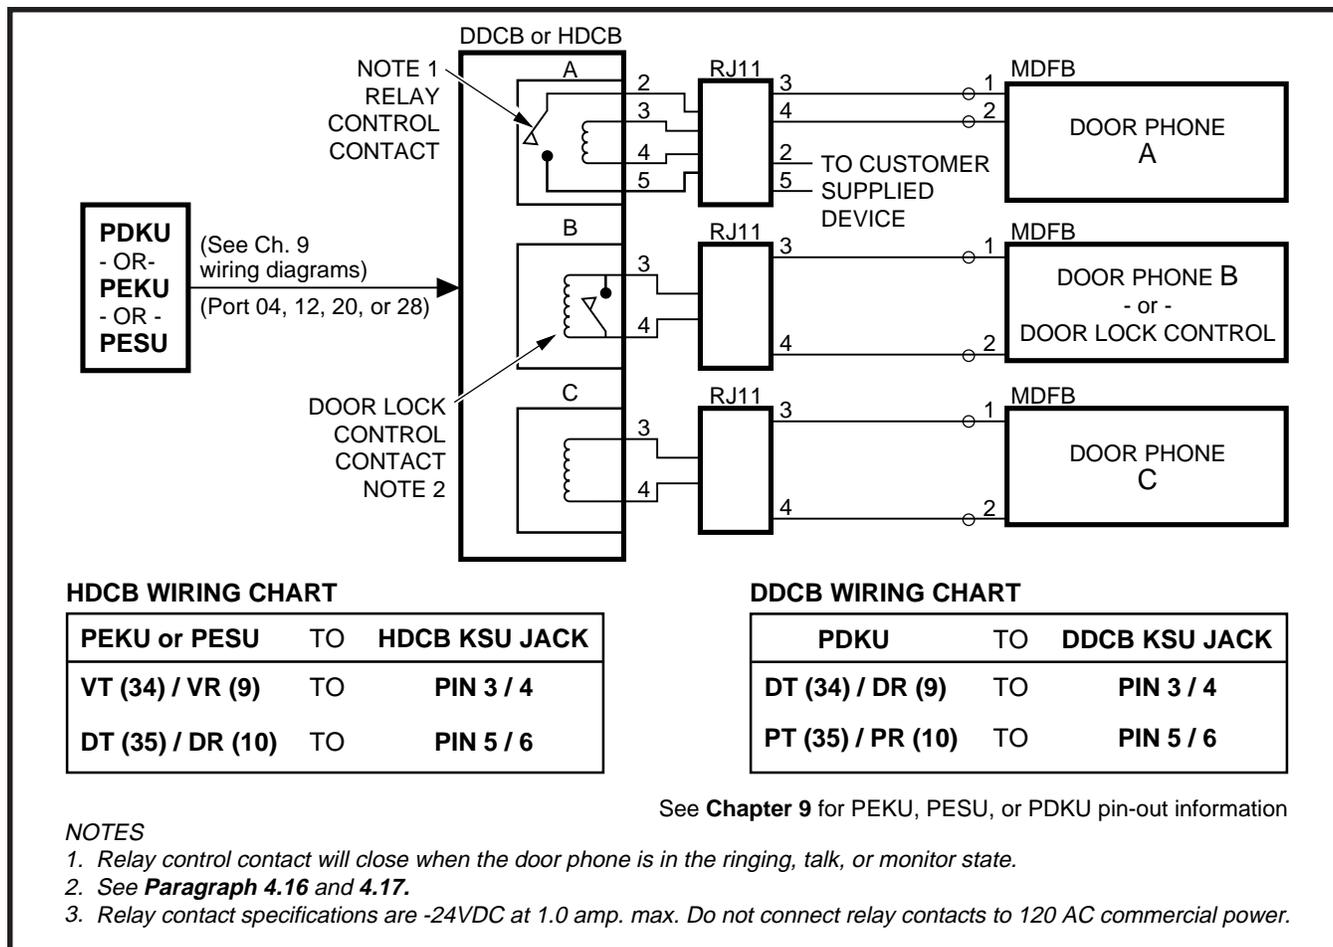

FIGURE 8-11
DDCB Installation (Figure 8-11 and Chapter 9 DDCB Wiring Diagram):
- HDCB Installation (Figure 8-11 and Chapter 9 HDCB Wiring Diagram):**